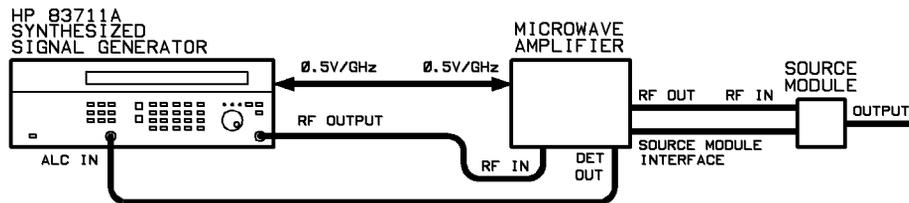

Figure 3-1. Millimeter-Wave Equipment Setup
1. Connect the equipment as shown in Figure 3-1: